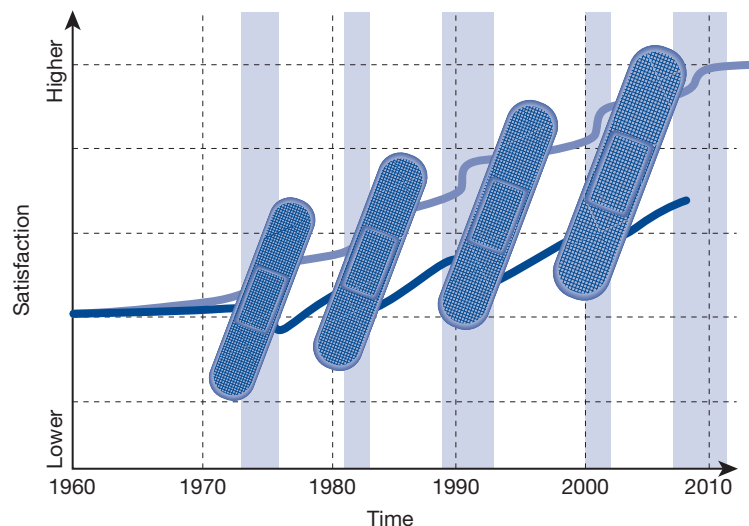

Figure 3.20 A series of Band-Aids with each successive recession. *Sam Spata, Architect, AIA, LEED® AP BD+C*
**KF:** BIM is easy to use. It's much easier than CAD. It's pretty complicated under the hood, but architects and engineers no longer feel like they need to understand what's under the hood. I feel that's a mistake—they do. The firms that are doing well with the technology—it's because they understand what's under the hood and they tweak it. To understand and use BIM is really very simple. We do a four-to-six-hour Revit quick-start, and in that amount of time we take a bastardized Palladian building and we do plan, section, elevation, rendering—we talk about the construction techniques, the integrity of the 3D model. If you come from 2D CAD—a lot of people bloody their foreheads trying to make Revit behave like AutoCAD. It's a different analogy, and so you have to approach it differently. From there, there are some great online tutorials. (See Figure 3.20.)